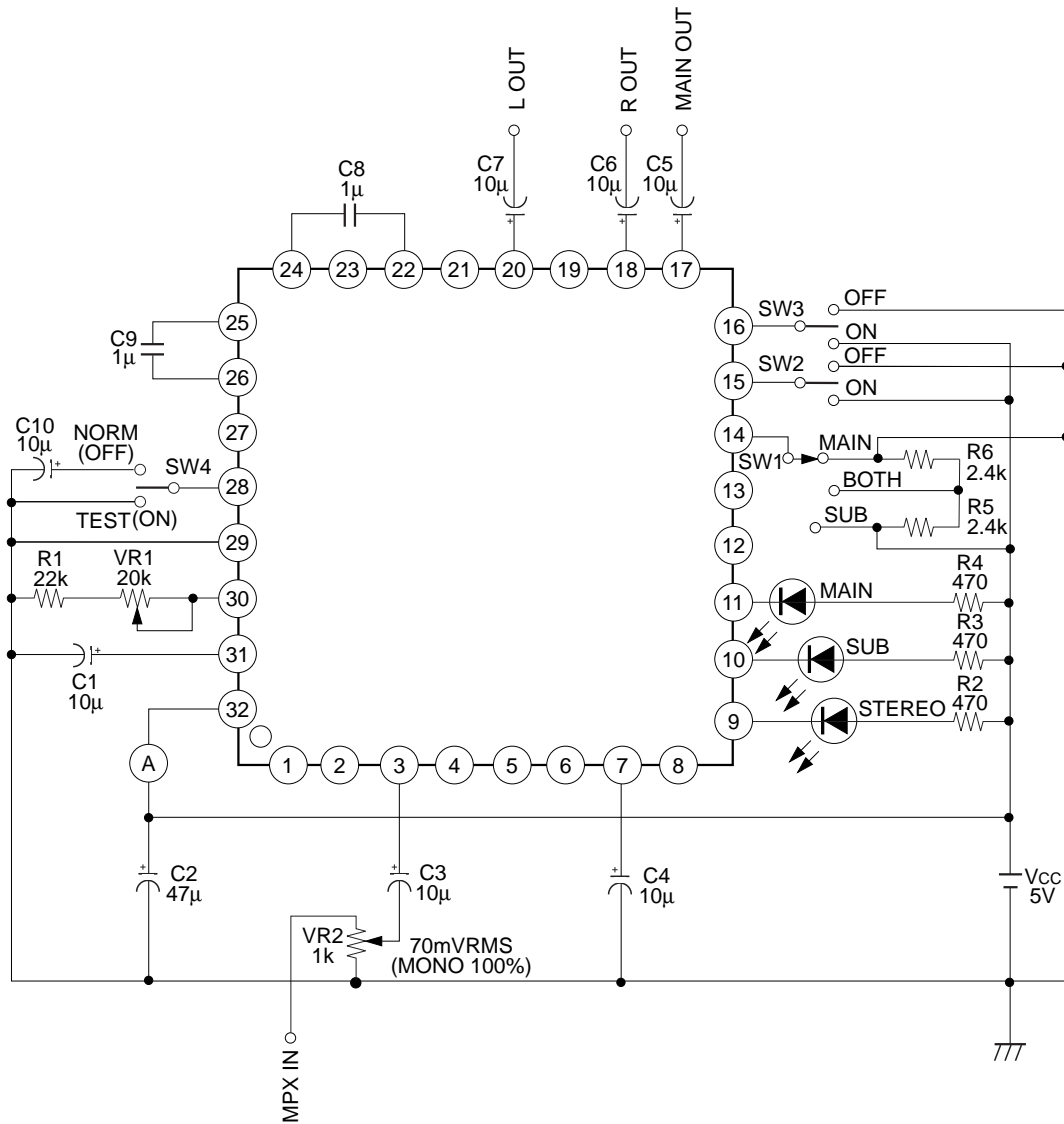

**Fig. 3**
- 1) Connect as shown in Fig. 3. (Set SW4 to NORM)